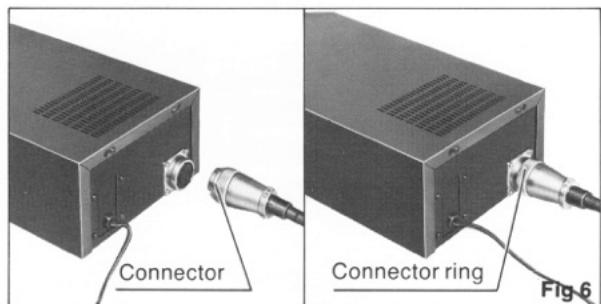

Fig. 6
1. Attach the connection cord to the control unit. (Fig. 6)